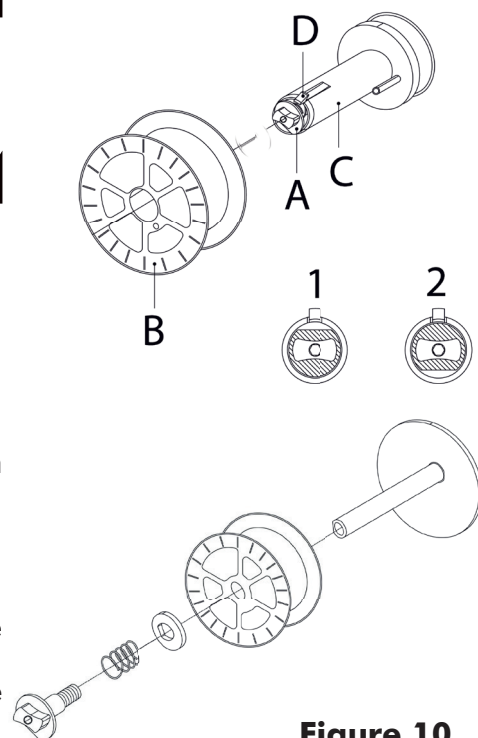
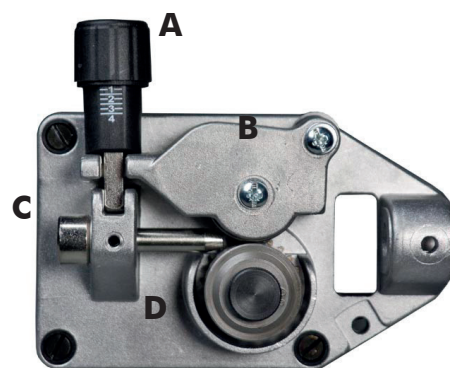

Figure 10
Figure 11
- Loosen the nut (A) of the spool holder (position 1) (brake drum). In the case you are replacing the wire spool, extract it by pushing the snap tongue (D) (Fig 16). Remove the plastic protection from the spool. Place it on the spool holder. Tighten the lock nut (A) turning it to position 2. (Fig. 10).
- Remove the wire spool (B) from the spool holder (C).
- Loosen the nut (A), remove the spring and the washer; remove the spool holder (C) from the pivot.
- Tighten the lock nut (A).
**Tighten nut (A) to appropriate tightness. Excessive pressure strains the wire feeding motor. Too little pressure does not allow the immediate stop of the wire spool at the end of the welding.**
- Loosen and lower the plastic knob (A) (Fig.11). Open the pressure arm (B) of the feeder. Extract the wire from the torch liner.
- When the wire is disconnected, grasp it with pliers so that it cannot exit from the spool. If necessary, straighten it before inserting it in the wire input guide (C). Insert the wire on the lower roll (D) and in the torch liner.
- Lower the pressure arm (B) and place the knob (A). Tighten slightly. If tightened too much, the wire gets locked and could cause motor damage. If not tighten enough, the rolls will not feed the wire.